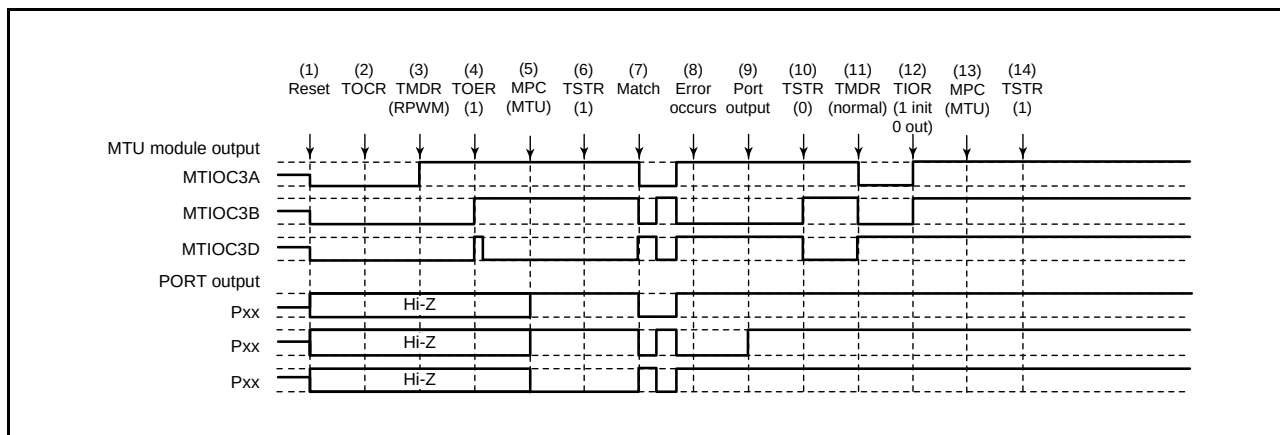

Figure 23.141 Error Occurrence in Reset-Synchronized PWM Mode, Recovery in Normal Mode
Figure 23.141 shows a case in which an error occurs in reset-synchronized PWM mode and operation is restarted in normal mode after re-setting.
(1) to (10) are the same as in Figure 23.141.
(11) Set PWM mode 1 (positive-phase MTU output goes low, and negative-phase output goes high).
(12) Initialize the pins with the TIOR register. (In PWM mode 1, a waveform is not output on the MTIOCnB (MTIOCnD) pins. If a level is to be output, make the required general output port settings in the I/O port's port direction register (PDR) and port output data register (PODR).)
(13) Use the MPC and the port mode register (PMR) for the I/O port to set up MTU output.
(14) Restart operation by setting the TSTR register.
(28) Operation When Error Occurs in Reset-Synchronized PWM Mode and Operation is Restarted in Complementary PWM Mode
(11) Disable output in MTU3 and MTU4 with the TOER register.
(12) Select the complementary PWM mode output level and enable or disable cyclic output with the TOCR register.
(13) Set complementary PWM mode (MTU cyclic output pin goes low).
(14) Enable output in MTU3 and MTU4 with the TOER register.
(15) Use the MPC and the port mode register (PMR) for the I/O port to set up MTU output.
(16) Restart operation by setting the TSTR register.
(29) Operation When Error Occurs in Reset-Synchronized PWM Mode and Operation is Restarted in Reset-Synchronized PWM Mode
(11) Use the MPC and the port mode register (PMR) for the I/O port to set up MTU output.
(12) Restart operation by setting the TSTR register.
(13) The reset-synchronized PWM waveform is output on compare match occurrence.